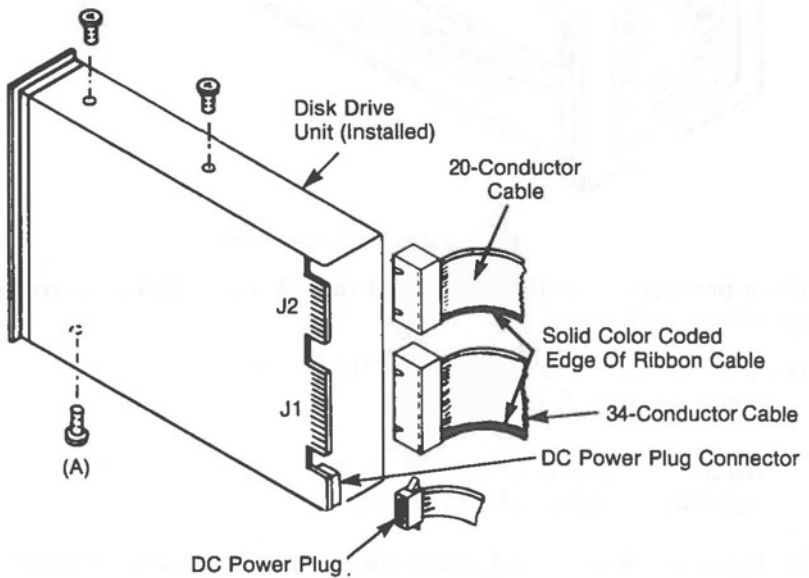

Figure 3-39 Drive Connectors
6. Align the top two mounting holes with the elongated slots on top of the drive bracket. Insert the two screws into the top mounting holes and drive holes and turn clockwise (see Figure 3-39).